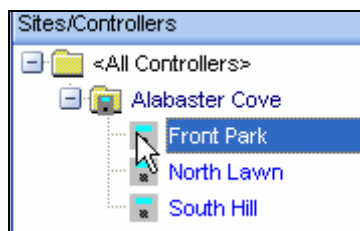

Figure 17.0.2
2. Select the Site / Controller that you want to perform Speed Communications on from the **“Site / Controller”** window. Make sure that it is highlighted (Figure 17.0.2).